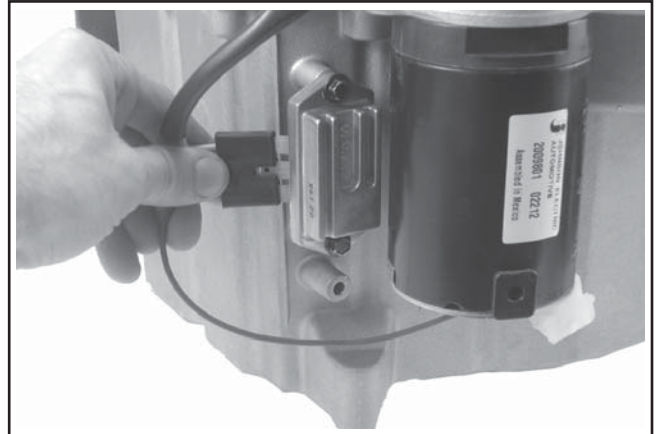

Figure 10-74. Installing Rectifier-Regulator.
1. Using the two M6 screws, mount the rectifier-regulator onto the crankcase bosses, with the cooling fins out. See Figure 10-74. Torque the screws to **6.0 N·m (55 in. lb.)** into new as-cast holes, or **4.0 N·m (35 in. lb.)** into used holes.